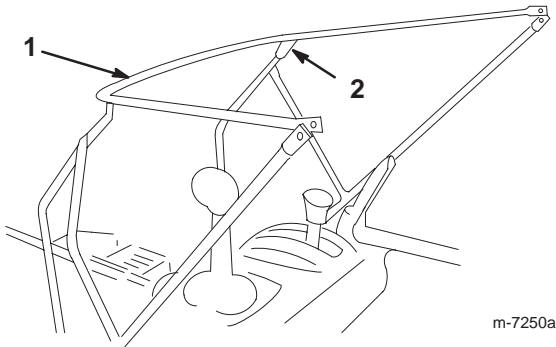

Figure 2
- Position the horizontal frame inside the upper ends of the mounting brackets (Fig. 2).